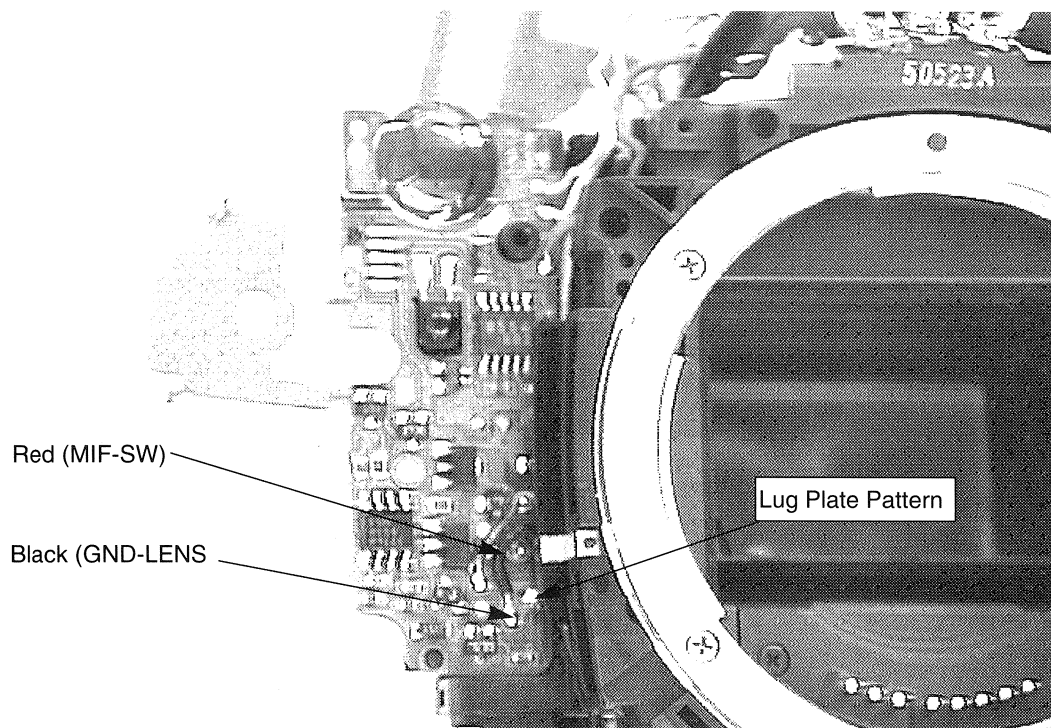

Fig. 3-21 DC/DC Flex
1. Unsolder the red MIF-SW lead (Fig. 3-21).